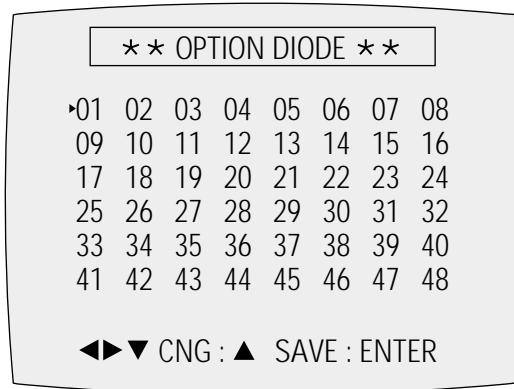

Fig.4-4
- 2) Press the "VOL +" button on the remote control about 5 seconds then option setting is appeared. (See Fig. 4-4)
(If "DISPLAY" button is pressed, the selected number is changes reversed color. ; See Fig. 4-4)